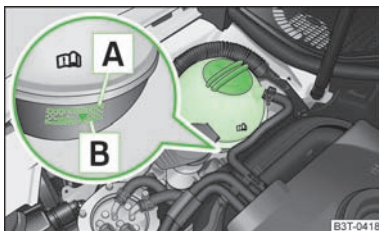

Fig. 162
- > Check the level of coolant in the coolant expansion bottle. » Fig. 162. When the engine is cold, the coolant level must be between the (MIN) and (MAX) markings. The level may also rise slightly above the (MAX) marking when the engine is warm.
- > Place a cloth over the cap of the coolant expansion reservoir » Fig. 162 and unscrew the cap **carefully**.
Do not fill the coolant above the mark (max.) » Fig. 162! Excess coolant heats up and then is forced out of the cooling system through the pressure relief valve in the cap.